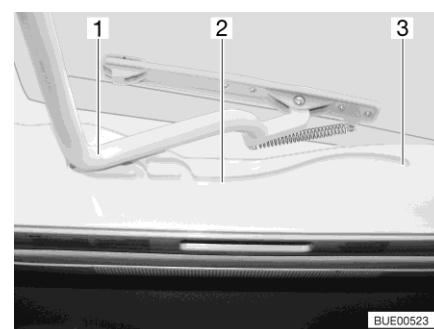

Fig. 29 Guide (Heki skylight)
- Pull the bar (Fig. 29,1) in the guides (Fig. 29,2) to the rearmost position (Fig. 29,3).
- Use both hands to push the bar (Fig. 29,1) slightly upwards.
- Pull the bar in the guides (Fig. 29,2) to the desired position.